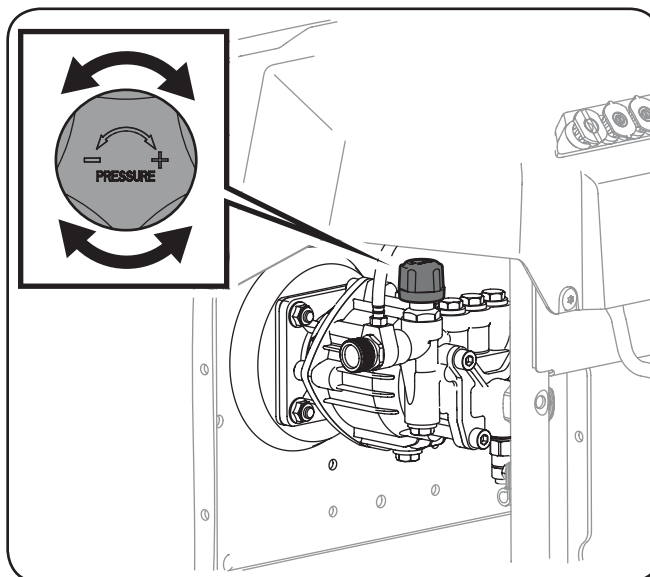

Figure 3-11
6. A pressure control valve has been supplied to adjust the pressure of the spray being dispensed through the spray gun by the pressure washer. From the factory, the unit has been set at maximum pressure. To lower pressure, rotate knob counter-clockwise. See Figure 3-11.